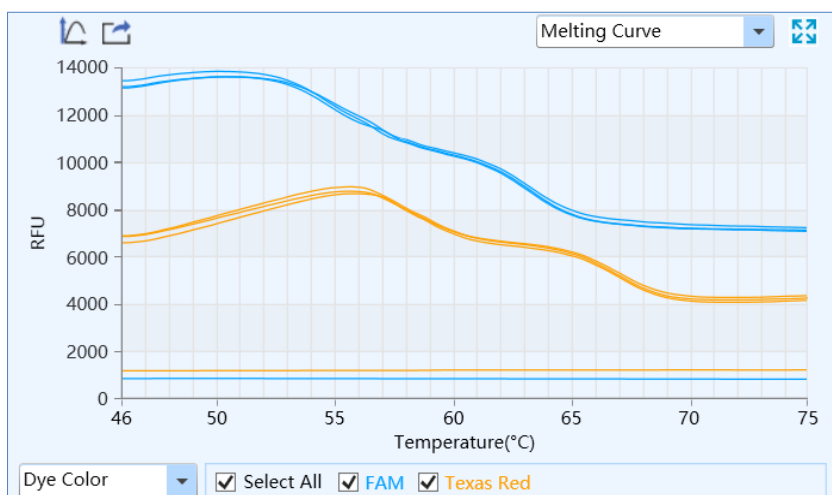

Figure D-13.1. Melting Curve Analysis Interface - Melting Curve Functional Module
- I. **Melting Curve:** display the fluorescence intensity against the temperature, as shown in figure D-13.1.